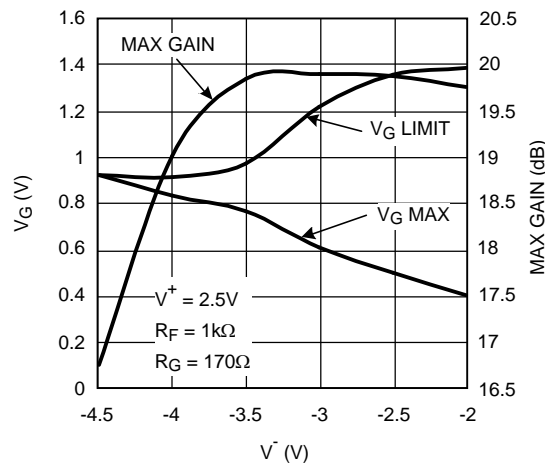

Figure 67.  $V_{G\_MAX}$ ,  $V_{G\_LIMIT}$ , & Max-gain vs.  $V^-$  ( $V^+ = 2.5V$ )
- a)  $V_G$  range constricts. Referring to Figure 67, note that  $V_{G\_MAX}$  ( $V_G$  voltage required to get maximum gain) is 0.5V ( $V_S = \pm 2.5V$ ) compared to 1.0V for  $V_S = \pm 5V$ . At the same time, gain cut-off ( $V_{G\_MIN}$ ) would shift to -0.5V from -1V with  $V_S = \pm 5V$ .
- b)  $V_{G\_LIMIT}$  (maximum permissible voltage on  $V_G$ ) is reduced. This is due to limitations within the device arising from transistor headroom. Beyond this limit, device performance will be affected (non-destructive). Referring to Figure 67, note that with  $V^+ = 2.5V$ , and  $V^- = -4V$ ,  $V_{G\_LIMIT}$  is approaching  $V_{G\_MAX}$  and already "Max gain" is reduced by 1dB. This means that operating under these conditions has reduced the maximum permissible voltage on  $V_G$  to a level below what is needed to get Max gain. If supply voltages are asymmetrical, reference Figure 67 and Figure 68 plots to make sure the region of operation is not overly restricted by the "pinching" of  $V_{G\_LIMIT}$ , and  $V_{G\_MAX}$  curves.
- c) "Max\_gain" reduces. There is an intrinsic reduction in max gain when the total supply voltage is reduced (see Figure 43). In addition, there is the more drastic mechanism described in "b" above and shown in Figure 67.